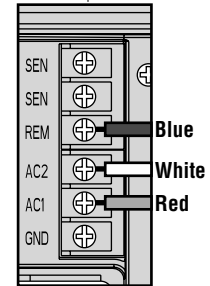

Fig. 2
- 4) Attach the red, white and blue wires from the harness to the terminal block of the controller as shown in Figure 2.